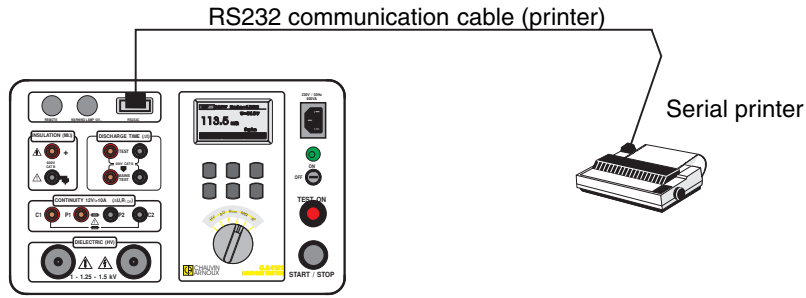

Fig.28. Connection of C.A 6121 MACHINE TESTER to a serial printer
1. Connect the C.A 6121 MACHINE TESTER to the serial printer or to the PC (see figures 28 to 30) using the appropriate RS232 communication cable and adapters.